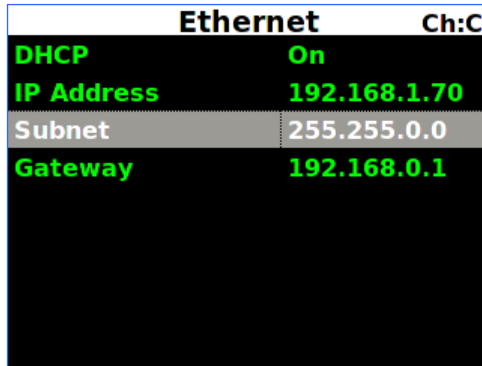

Figure 163: IP Subnet Selection
1. To assign an IP subnet, use the down arrow on the keypad to highlight the IP Subnet (Figure 163), then press the Enter key.